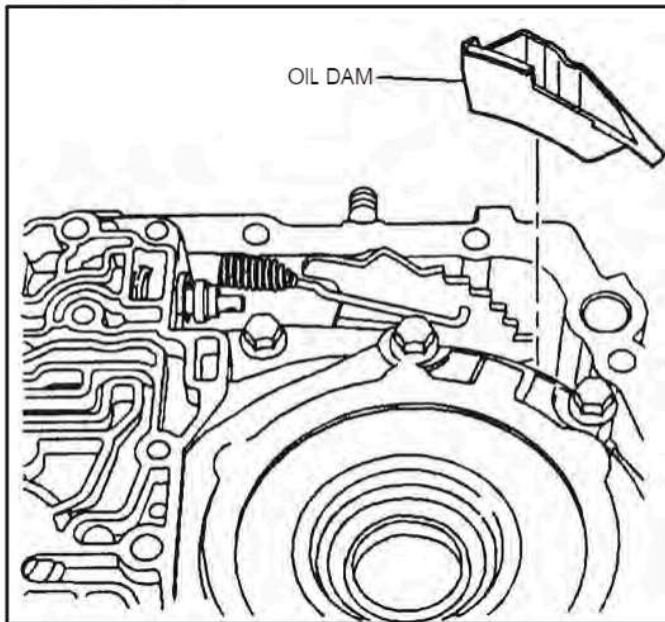

Figure 179
89. Install the oil dam between the case cover and transaxle case, as shown in Figure 179.